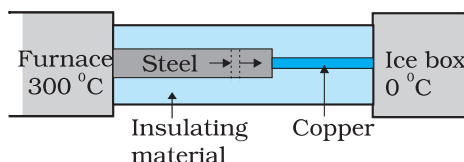

Fig. 11.15
► **Example 11.6** What is the temperature of the steel-copper junction in the steady state of the system shown in Fig. 11.15. Length of the steel rod = 15.0 cm, length of the copper rod = 10.0 cm, temperature of the furnace = 300 °C, temperature of the other end = 0 °C. The area of cross section of the steel rod is twice that of the copper rod. (Thermal conductivity of steel = $50.2 \text{ J s}^{-1} \text{m}^{-1} \text{K}^{-1}$; and of copper = $385 \text{ J s}^{-1} \text{m}^{-1} \text{K}^{-1}$).